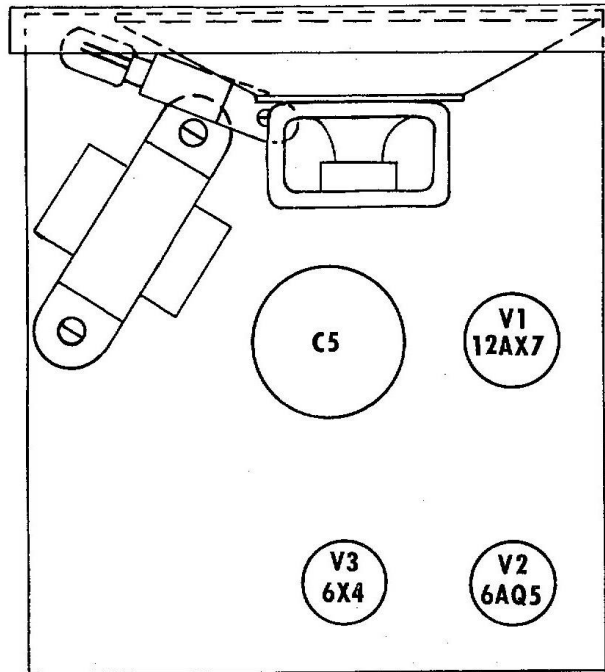

Fig. 17
- 3) Insert the ECC83/12AX7 tube (V1), the 6AQ5 tube (V2), and the 6X4 tube (V3) in their respective sockets on the chassis as shown in Fig. 17.